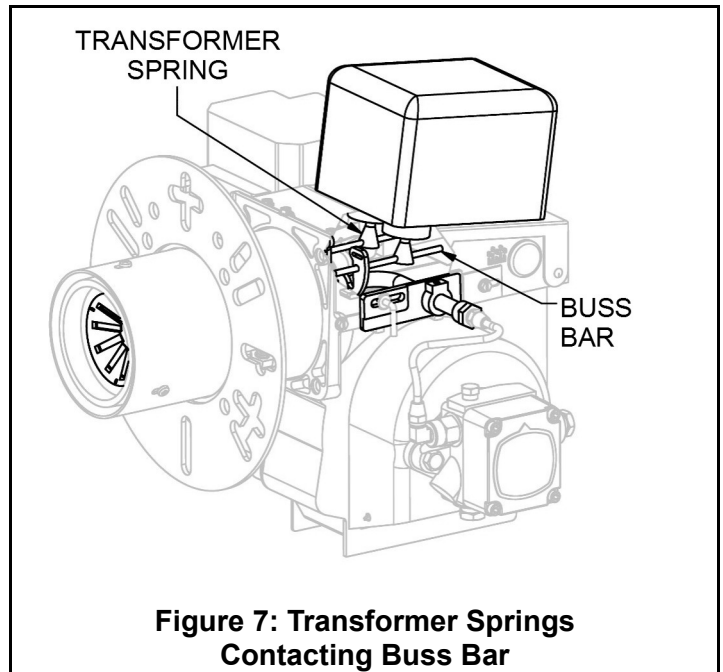

Figure 7: Transformer Springs Contacting Buss Bar
5. Close the transformer/cover so that the springs contact the buss bars (Figure 7) and secure with the two mounting screws.